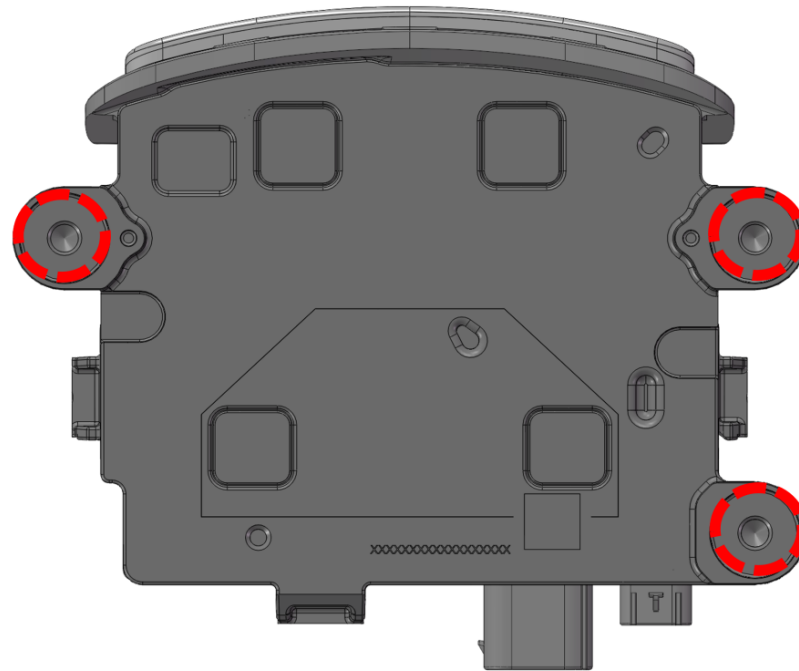

Figure 9. Mounting holes on lidar base
- The number and positions of the mounting holes in Figure 9 can be customized.